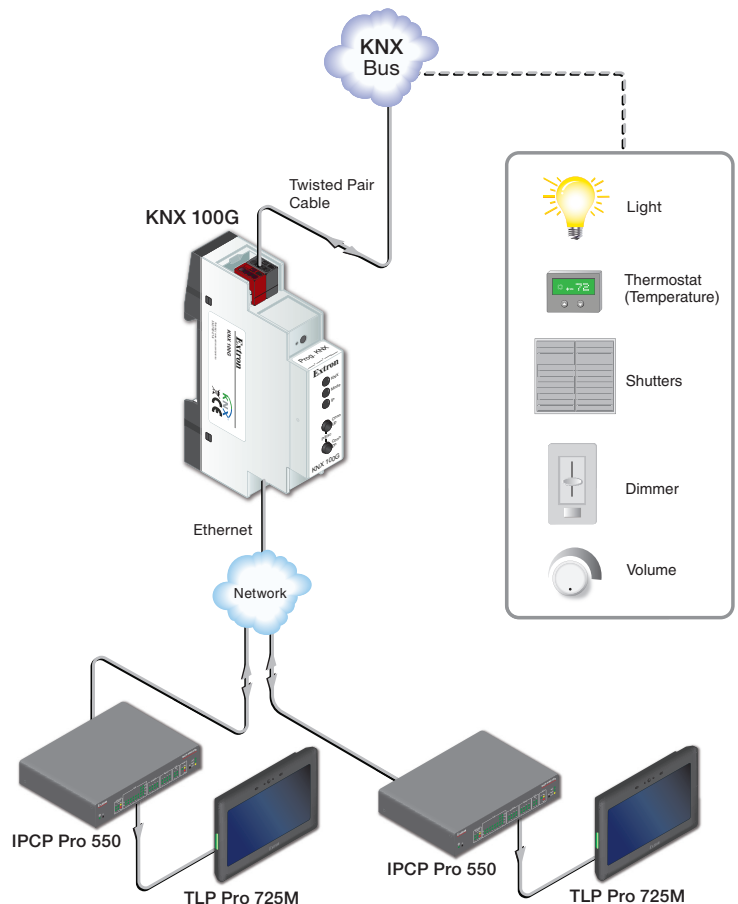

Figure 3. KNX 100G Application Diagram
- Using a certified KNX twisted pair cable, connect to the KNX BUS located on the top of the device (see figure 3).